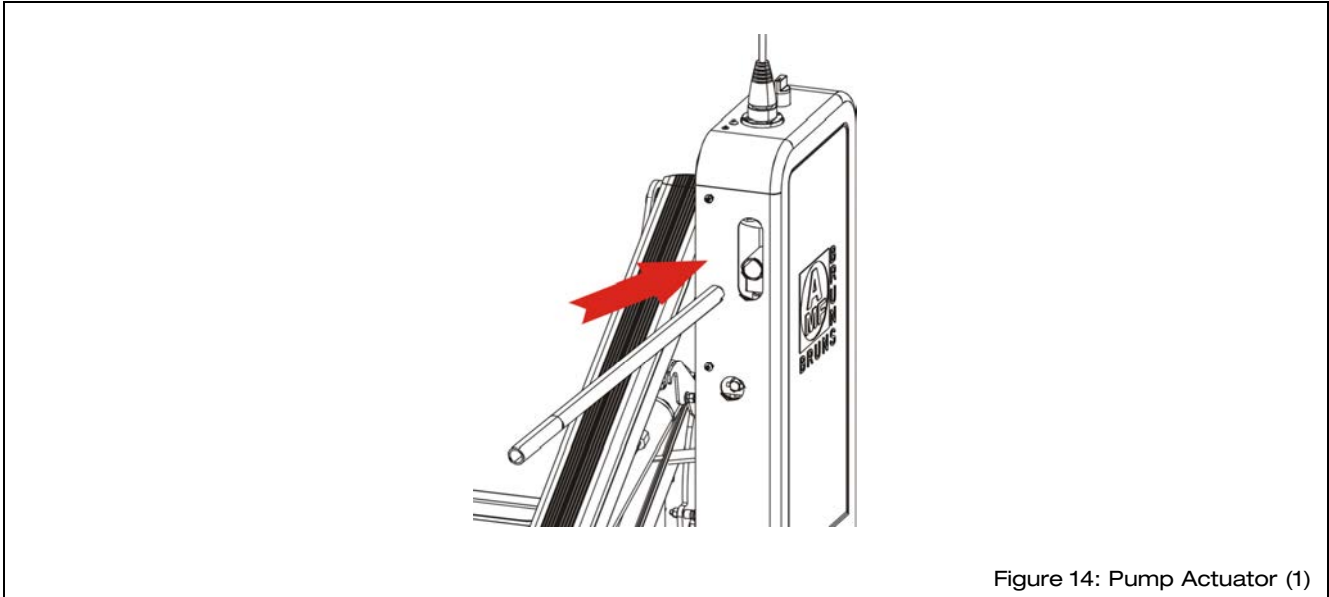

Figure 14: Pump Actuator (1)
- ⇒ Insert the operating lever into the pump actuator on the hydraulic system (see Figure 14, page 31).